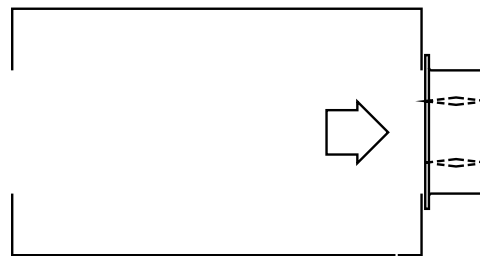

Fig. 5.5
**Figure 5.2** Illustrates a ducted damper exhausting air into an open area. This configuration has a lower pressure drop than Figure 5.5 because entrance losses are minimized by a straight duct run upstream of the damper.
**Figure 5.5** Illustrates a plenum mounted damper. This configuration has the highest pressure drop because of extremely high entrance and exit losses due to the sudden changes of area in the system.